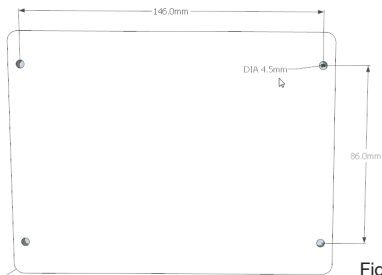

Figure 28
- Fix the base of the module with the cable glands facing downwards to a firm flat surface using suitable screws. Use the four mounting holes provided in the corners of the box. Dimensions for these holes are shown in figure 28.